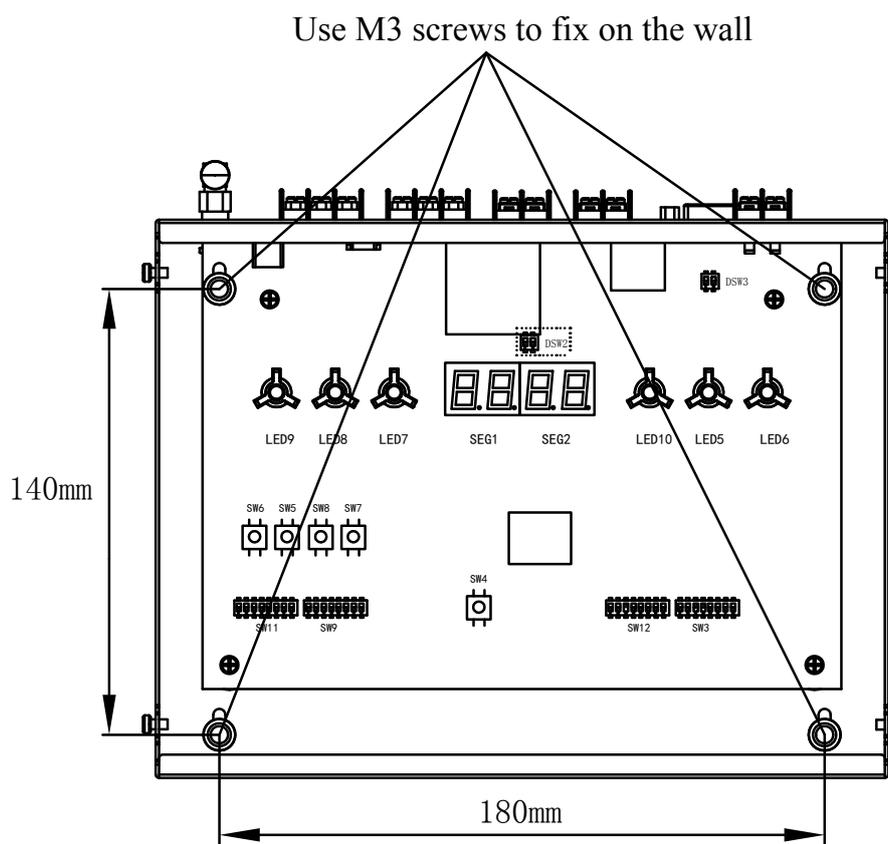

Figure 2.5 Position and size of the screw holes
(4) Use “M3 screw” to fix on the wall from the inner side of the frame, as shown in Figure 2.5. (“M3 screw” needs to be prepared on the spot)
(5) Install top cover.